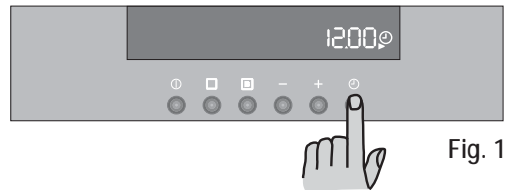

Fig. 1
a) press button  and, while the symbol  is flashing (Fig. 1), set the correct time of day by pressing buttons "—" or "+" (Fig. 2).